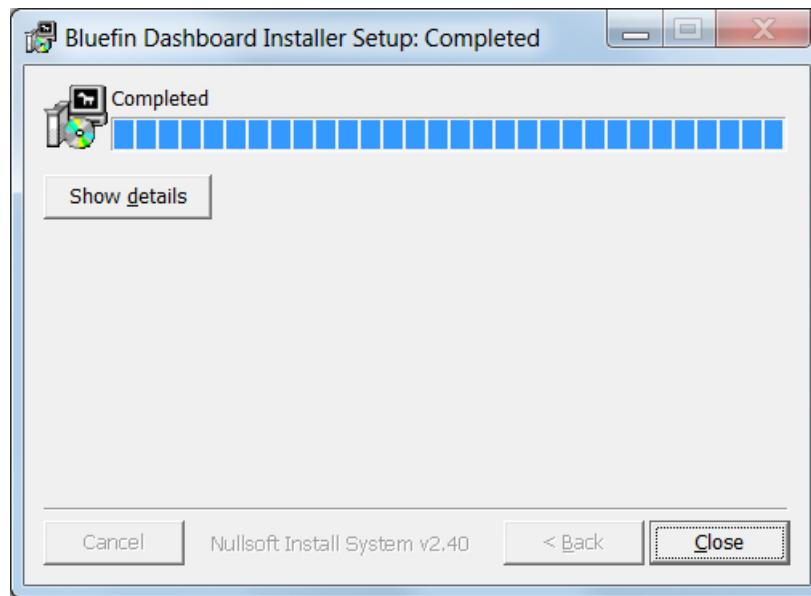

Figure 116: Dashboard Installer Program—Installation Completed
8. When the installation is complete, the window displays an installation complete message (Figure 116).